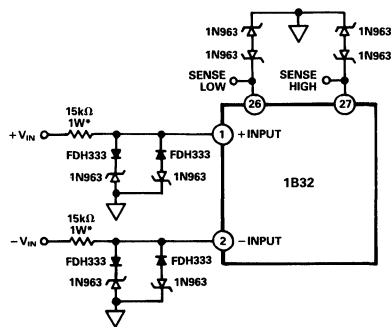

Figure 6. 115V Input Protection
**Input Protection:** The 1B32 differential inputs can be protected from accidental shorts to power line voltages (115V rms) by the circuit shown in Figure 6. The back-to-back diodes clamp the inputs to a maximum of ±12.5V and were selected for low leakage current. The 15kΩ resistors in series with the inputs will degrade the noise performance of the 1B32 to 4µV p-p (0.1Hz to 10Hz). When interfacing with six-wire load cells in harsh environments, input protection for the sense inputs is also recommended (Figure 6).